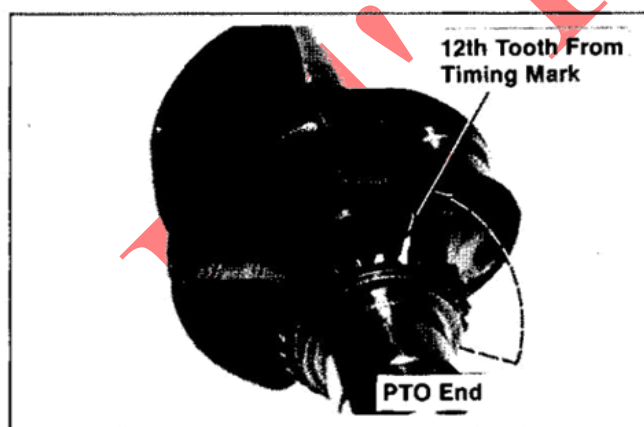

Figure 12-25. Marking Tooth On Crankshaft Gear.
**Crankshaft** – Locate the primary timing mark on crankshaft. While looking at the PTO end of crankshaft, start with the tooth directly below timing mark and count **twelve (12)** teeth in a **counterclockwise** direction. Mark the twelfth tooth. Refer to Figure 12-25.